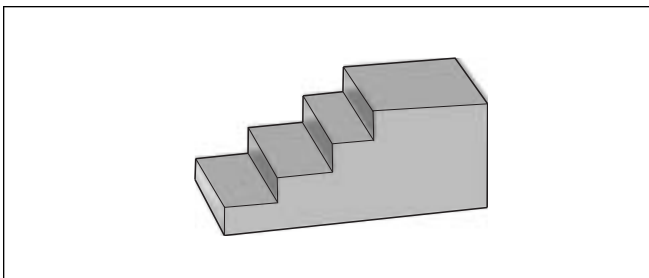

Figure 6-17. Primary Drive Locking Tool (Part No. HD-41214)
11. See Figure 6-17. Obtain the PRIMARY DRIVE LOCKING TOOL (HD-41214) and proceed as follows: